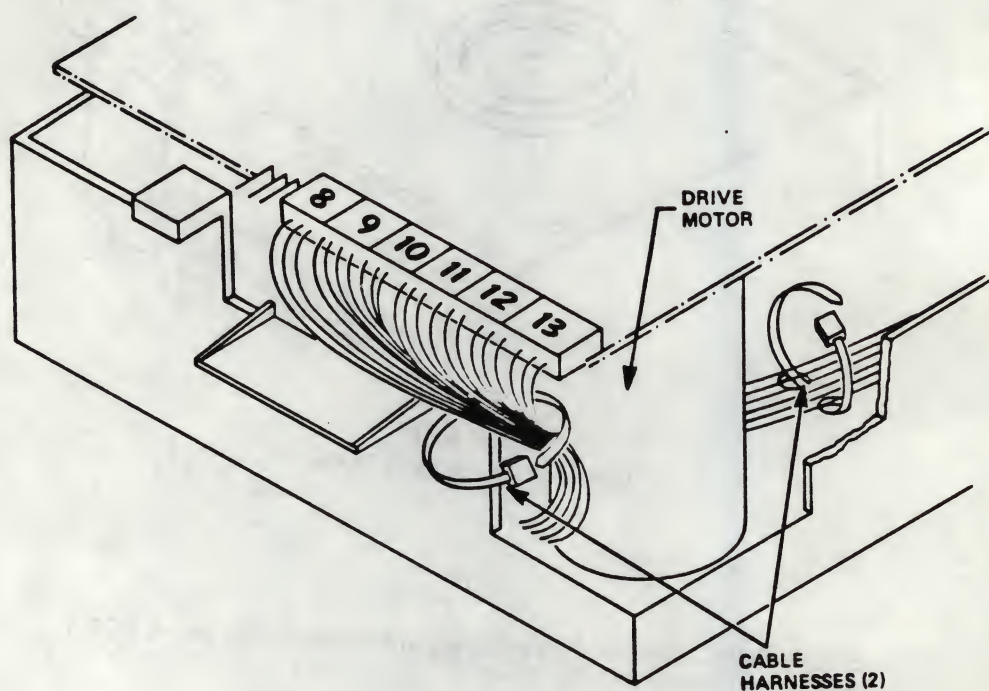

Figure 5-20
5.11.2 Cut the two (2) harnesses that hold the bundle of cables at the back of the drive motor, and that attach the cables to the bottom of the chassis (see Figure 5-20).
- 5.11.12** Harness the new Track 00 Sensor Assembly's cables, the Activity LED Assembly's cables, and the Write Protect Switch Assembly's cables to the bottom of the chassis (see Figure 5-20).
- 5.11.13** Harness the bundle of cables, including the new Track 00 Sensor Assembly's cables, located at the back of the drive motor (see Figure 5-20).